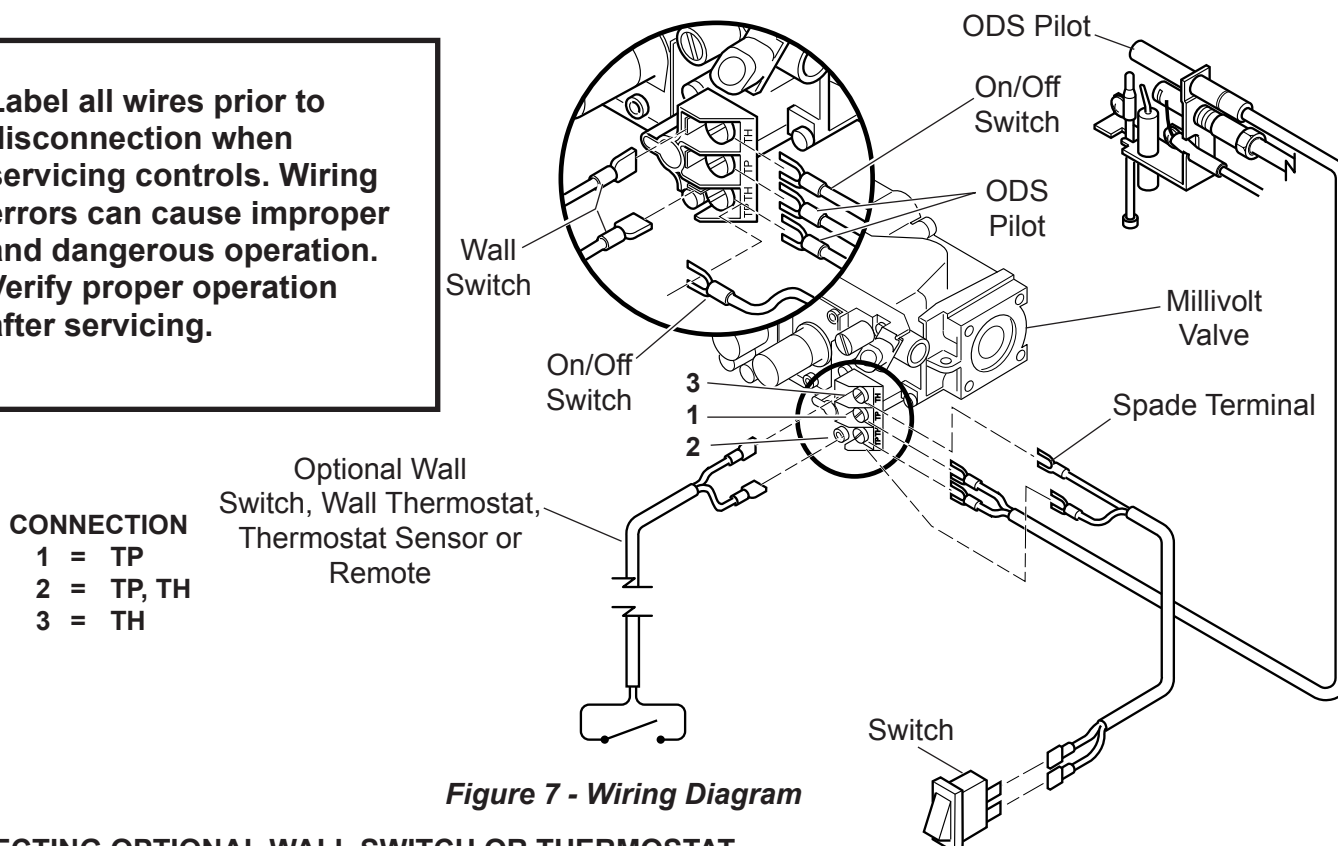
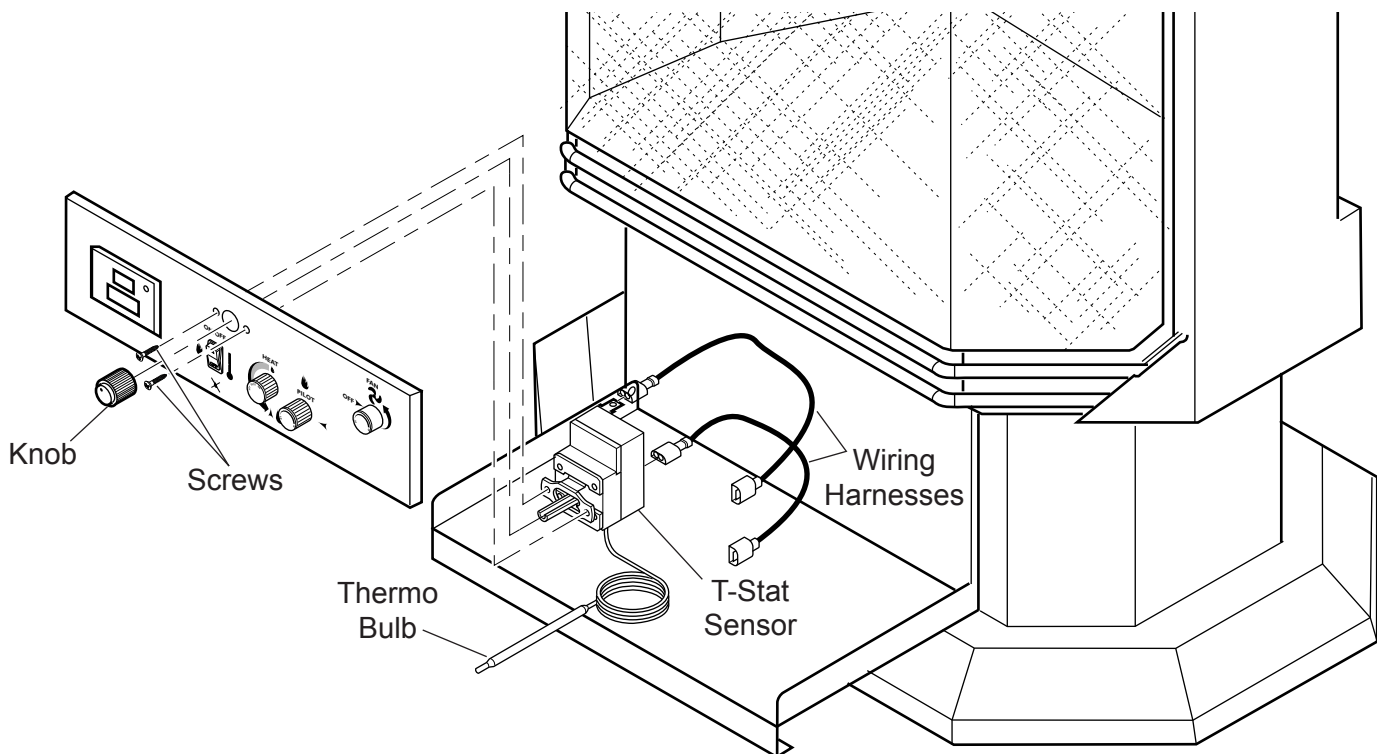

Figure 7 - Wiring Diagram
Figure 9 - Installing T-Stat Sensor and Control Knob
2. Slip the t-stat sensor behind the faceplate. Attach the t-stat sensor to the faceplate with 2 screws provided. Make sure the thermo bulb wire is on the bottom of the t-stat sensor. See Figure 9.
3. Attach wiring harnesses to back of t-stat sensor. See Figure 9. Attach the other ends of the harness to either TP/TH and TH on control valve or to existing wiring harness with two (2) 0.250" male spade terminals for remote t-stat operation. See Figure 7, page 13.
6. Install knob to shaft of t-stat sensor. *See Figure 9, page 14.*